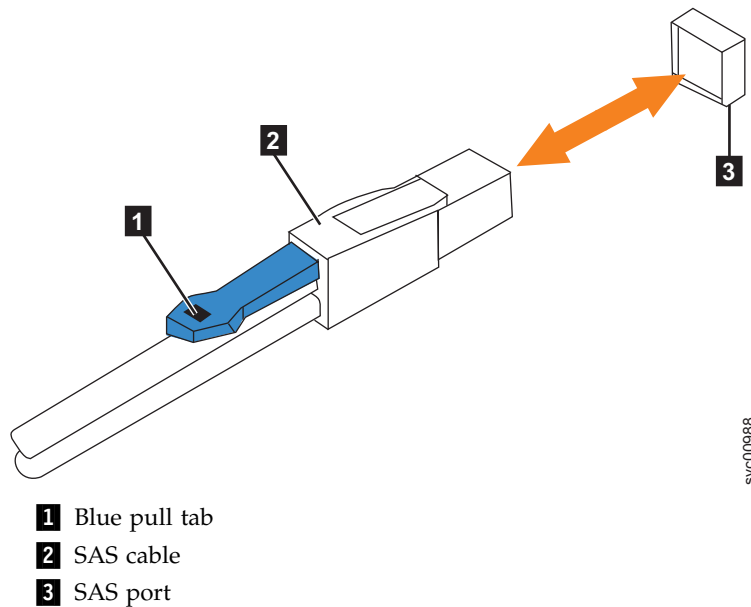

Figure 95. Correct orientation for SAS cable connectors
5. Ensure that the SAS connector is oriented correctly, as shown in Figure 95. The blue tab must face towards the top of the enclosure canister.